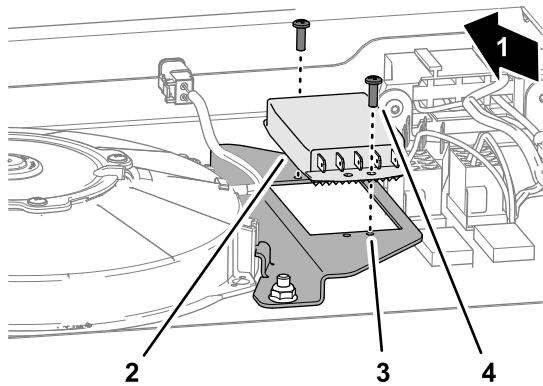

Figure 6
1. Align the fan-speed controller to the flange of the long fan-mount bracket with the electrical terminals align toward the back of the machine (Figure 6).
2. Secure the fan-speed controller to the flange of the long fan-mount bracket (Figure 6) with the 2 thread-forming screw (#8 x 3/8 inch).